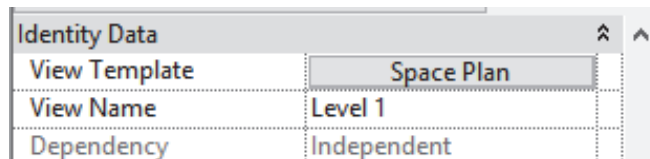

Figure 1-144
2. In Properties, in the *Identity Data* group, click the button next to *View Template*, as shown in Figure 1-144. The name on the button varies according to the template that has already been assigned.